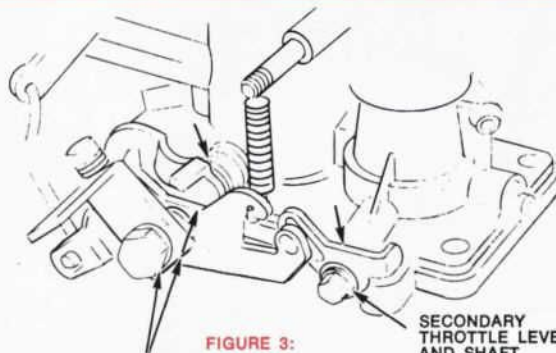

FIGURE 3:
- Primary throttle lever and bushing surfaces—both ends (Figure 3)